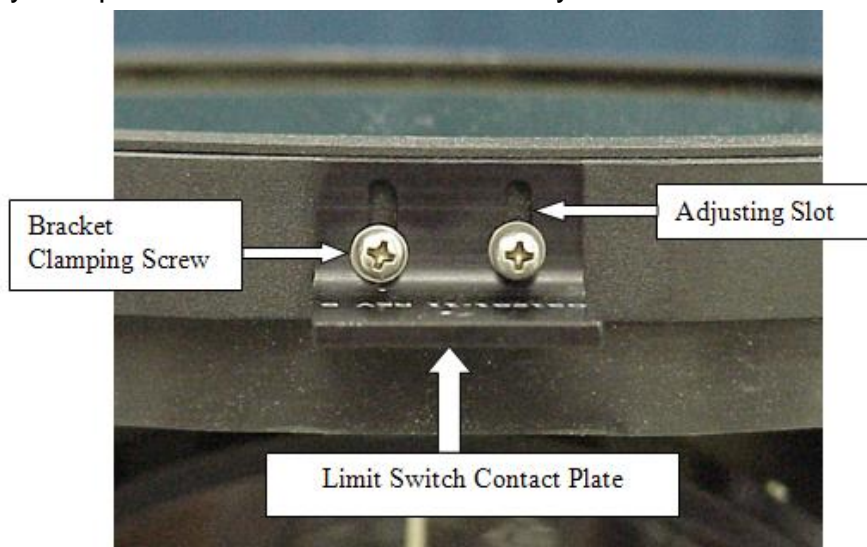

Figure 47 IFCO Contact Plate
- If the motor stops running before the filter closes fully, readjust the limit switch contact plate (Figure 47).